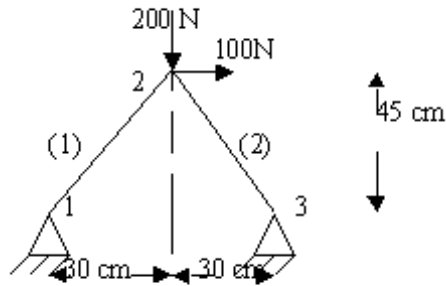

Figure 5
7. Consider the two bar truss structure shown in the figure 5. The elements properties are $E_1 = 20 \times 10^{11} \text{ N/m}^2$; $E_2 = 10 \times 10^{11} \text{ N/m}^2$; $A_1 = 100 \text{ mm}^2$; $A_2 = 200 \text{ mm}^2$. Calculate the displacement at node 2 and stresses in the elements 1 and 2. [16]